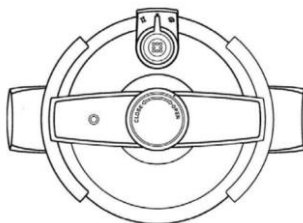

Fig.10
① **Natural cold.** When heating time is up, turn off the fire and leave it for a while waiting for the pressure reduced. When the indicator fell down, the cooking is over. Turn the knob to the position as per picture of Fig. 10, then take off the lid.